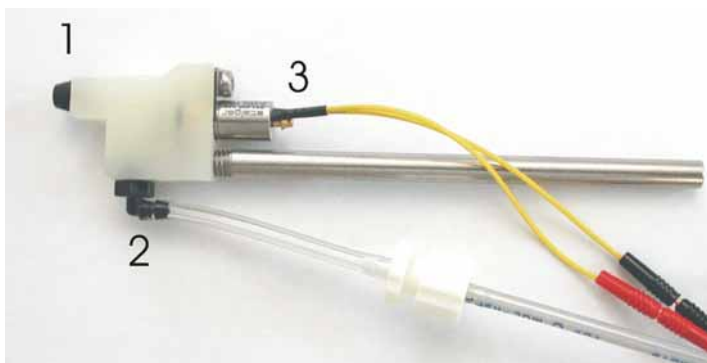

Figure 3: *microJECT*
The two valves which are controlled by the PDES-02D are located in the micro valve pipette holders, called *microJECT* (see Figure 3). Tubes and cables of both *microJECT*s are connected at the rear panel of the PDES system (refer to chapter 2.3).
- Connect your ejection pipettes to the *microJECT*s (#1, Figure 3).